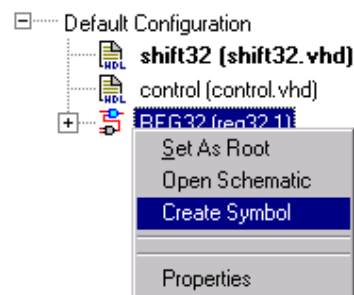

Figure 21 - Creating a ViewDraw symbol for REG32
1. In the Libero IDE Design Hierarchy tab, select *REG32*, then right mouse click and select **Create Symbol** (Figure 21). A ViewDraw symbol will be created for the storage register.